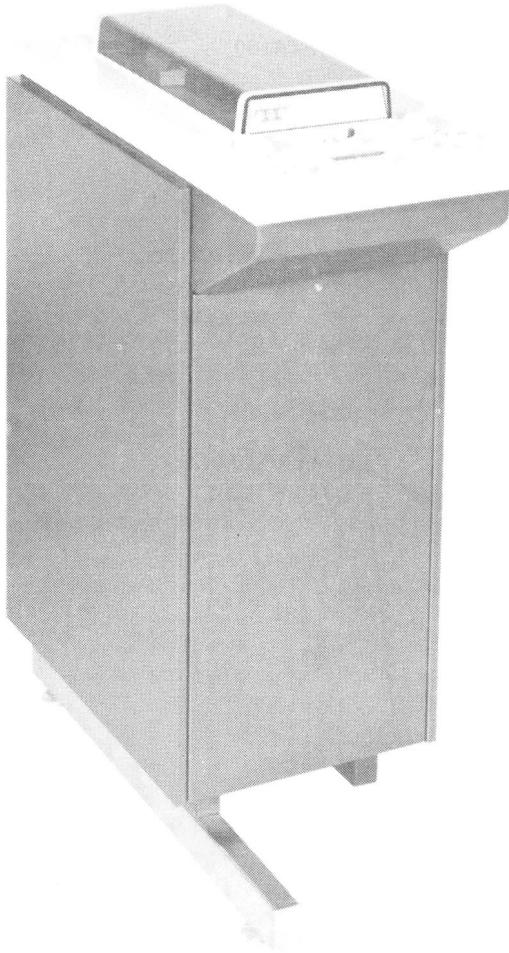

Figure 10 - Magnetic Tape Set Used With CDT or Other Parallel Device
1.02 Two versions of the tape set are produced. For clarity, the component removal procedures for the two types of tape sets are grouped separately. Part 2 of this section covers the tape sets used for stand-alone operation or as adjuncts to 33, 35, or 37 teletypewriters (Figure 1). Part 3 covers the tape sets used as adjuncts to the CDT and other parallel devices (Figure 10).
3. COMPONENT REMOVAL (ADJUNCT TO CDT OR OTHER PARALLEL DEVICE) (Figure 10)